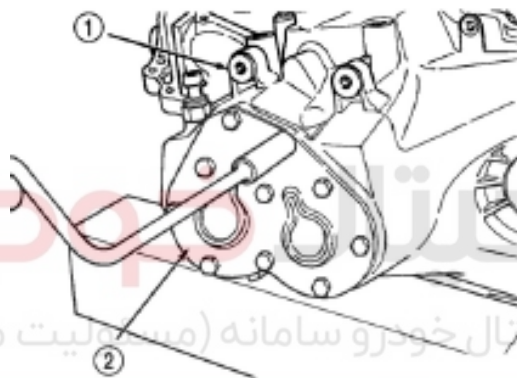
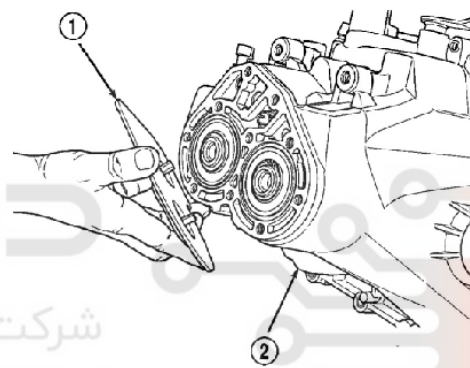

Figure 3-48 Removal of transaxle case
Figure 3-49 End plate
(15) Remove transaxle end plate (Figure 3-48 and Figure 3-49).